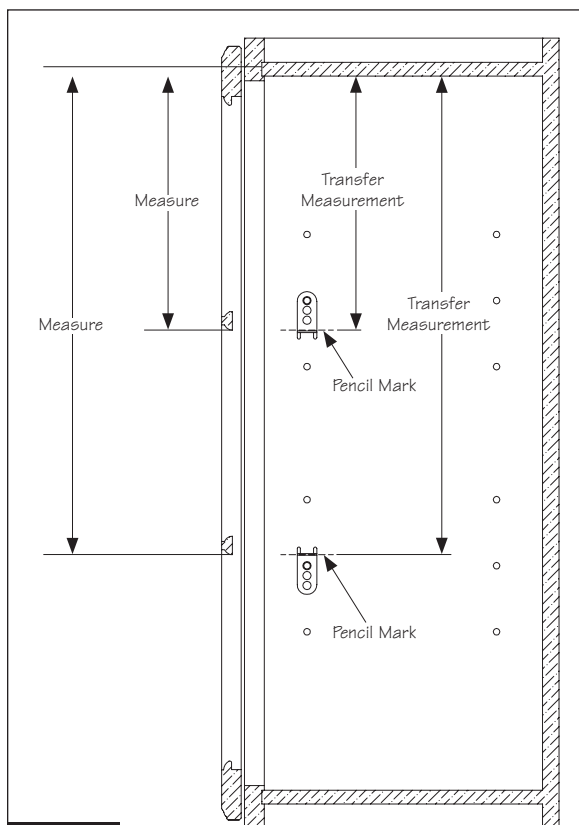

Figure 1
- 2** Measure down from the inside of the top of the cabinet to the bottom of the mullion door grids, as seen in Figure 1. Transfer the distance down from the inside of the top of the cabinet, in line with the shelf clip holes in the side panel, marking with a pencil, as seen in Figure 1.
- 4** If the pencil mark is either above or below a shelf clip hole, then an Adjustable Shelf Rest will be needed for that location. By holding the flat surface of an Adjustable Shelf Rest along that pencil mark, rotate and move the Adjustable Shelf Rest until one of the screw holes is close to a shelf clip hole in the Side Panel, as seen in Figure 1.
NOTE: The adjustable mullion shelf rests can be installed upside down in order to achieve your desired location as shown in the bottom of Figure 1.